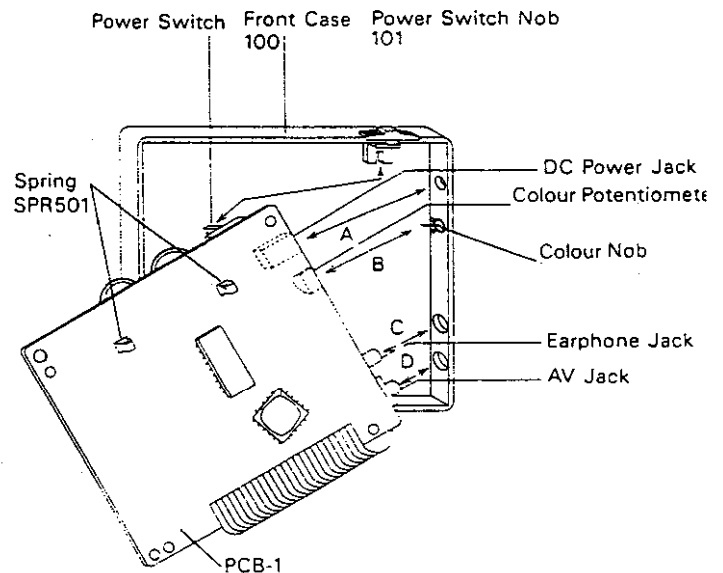

Fig. 3
2. As illustrated in Fig. 3, hold Front case (100) side and pull out PCB-1 in the direction of up slant to remove – (A)DC Power Jack (J451) from Front Case (100), (B) Colour Potentiometer (VR701) from Colour Nob (102), (C) Earphone Jack (J351) from Front Case (100), (D) AV Jack (J251) from Front Case (100), (E) Power Switch (SW451) Power Switch Nob (101).
3. Press the hook of Colour Nob (102), and remove the Colour Nob (102) from Front Case (100).